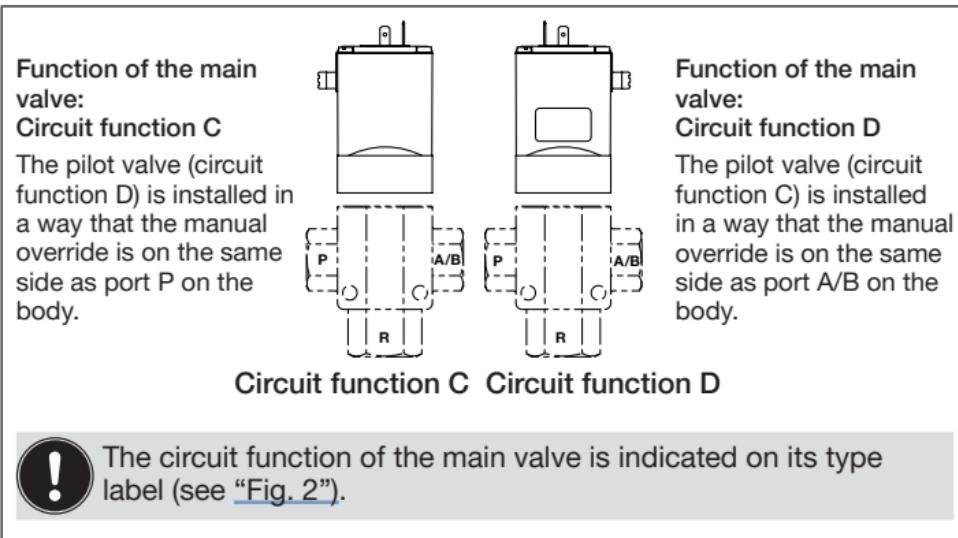

Fig. 1: Arrangement of the pilot valve
- At the pilot valve ②, loosen the two unsealed screws ①.
- Before removing the pilot valve, pay attention to the arrangement of the pilot valve (see “Fig. 1”, page 5).
- Remove the pilot valve ② and the O-rings ③ from the main valve.
- Insert the new O-rings ③ correctly into the recesses of the main valve.
- Note:** The O-rings ③ are not required for DN 8. The pilot valve ② is placed directly on the flat seal ⑤ of the main valve.
- Place the new pilot valve ② on the main valve.
Please observe the arrangement of the pilot valve (see “Fig. 1”, page 5).